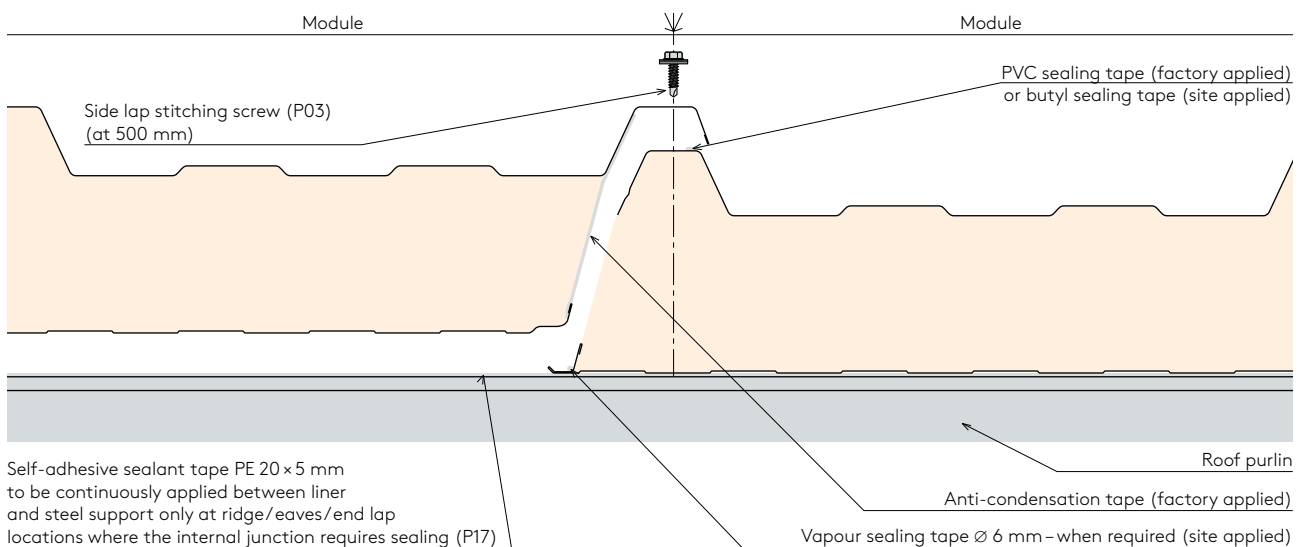

Fig. 10. – Detail D10.1. – Longitudinal Joint of an RW Panel
- If there is no sealing tape applied in the end corrugation of a panel, or this tape has been damaged in any way, it is necessary to assure that spare tape has been applied before assembly begins. If this is specifically called for in the implementation documentation, the present sealing tape may be replaced with Ø 4 mm butyl sealing tape (applied on site) (P29). The required sealing tape is a part of the panel delivery (see Fig. 10).
- Before the final fastening of panels to a steel construction the longitudinal joints of panels (locks) are fastened with self-drilling (thread-cutting) $\varnothing 4.8$ mm or $\varnothing 5.5$ mm screws (P03) on a corrugation, spaced apart by 500 mm at most (see Fig. 10).